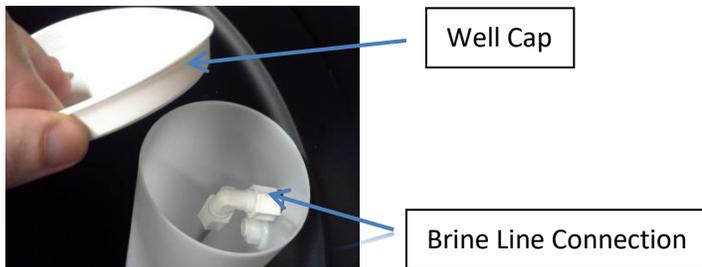

Figure 14: Brine Well Picture
- B. Remove the well cap and connect one end of the brine line hose to the brine line connection (Shown in Figure 14) of the brine tank. Tighten the brine line hose to the brine line connection by turning the cap of the brine line connection clockwise by hand. Make sure that no air can get into the line, or the softener will not regenerate properly.